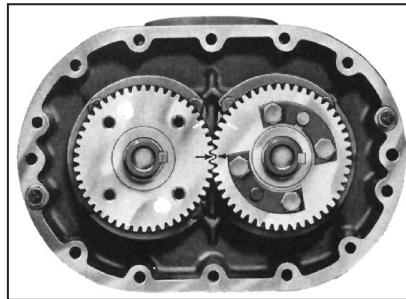
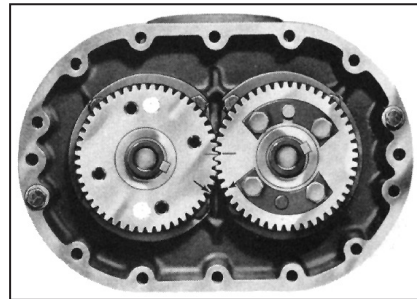
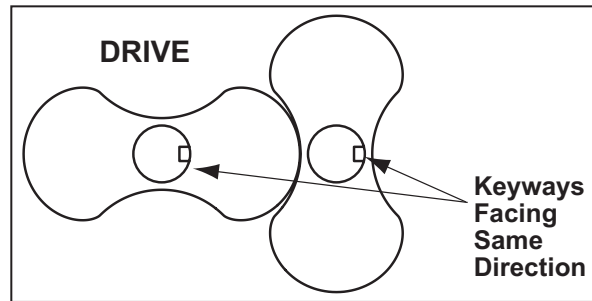

Figure 16 - Position of timing marks
Figure 17 - Position of timing marks
Figure 18 - Keyways position
3. Remove four socket head screws (93). Requires 5/32" hex head (Allen) wrench. Place two of the screws in tapped jacking holes and remove seal housing (91). Tap out seal and discard O-rings.
4. Remove gear cover cap screws (26) and gear cover (6) by placing two of the screws in the tapped jacking holes provided on the cover flange. Support cover with lift straps or other suitable means while removing. The jackscrews will provide the force necessary to break the seal between cover and end plate.
5. Temporarily secure end plate to housing with two screws (26) and some flat washers. Remove four nylok screws (66) from drive shaft (45). A light tap with a mallet will break it loose from the gear. Remove mating ring of mechanical seal [54].
6. Bend back lock tabs and remove cap screws (29), lock (59), washers (25) and spring pins (68).
7. Position timing gears (8) so both timing marks are matched. See Figure 16. Rotate drive gear clockwise approximately three teeth and mark a matching reference line on each gear as shown in Figure 17. This gear position is necessary so rotors will clear and not jam. Using a gear puller with a live center or a centering adapter, large enough so it will not jam into threaded hole, pull driven gear, while keeping matched reference line marks aligned. Use a slight rocking motion to insure rotors have not jammed. Should jamming occur, release pressure and tap gear back on until it rotates freely. Pull mating gear.
3. Place free end plate on suitable blocking with rotor side up. Stand rotors (1) into each bore with gear end shafts up and keyways facing in the direction shown in Figure 18 to the right.
4. Install the gear end plate (4) over the rotor shafts and coming to rest on top of the rotor lobes, being careful not to damage the seals. Recheck the location of the oil sight glass in relation to the drive rotor before proceeding with the assembly. Inspect lapped surface of seal mating ring to be sure it is perfectly clean. Use a soft tissue and cleaning agent if necessary. Place a few drops of lubricating oil on its surface and lubricate the O-ring. Install on rotor shaft with lapped surface down. Slot must line up with pin (300) in rotor shaft. Gently press with fingers to insure compression is taking place and mating ring is not hung up for any reason. Top of mating ring should sit flush with rotor shoulder when fully seated.
5. Coat the rotor shafts with an anti-seize lubricant and press the bearings (9) on the shafts. The bearing manufacturer numbers and/or an acid dot (inner race) should be up or toward the gears. Use the tool shown on page 44 along with a length of 3/4 - 10 x 6" threaded rod, washer (25) and nut. The use of a hydraulic ram with a hollow center is also recommended. In this case the threaded rod will have to be made longer.
6. Install bearing retainer plates (14) and secure with cap screws (30).
7. Check clearance between the face of the end plate and rotor lobes. Refer to *Assembly Clearances* table on page 41 for correct gear end clearances. If clearances are not within specifications, recheck parts to find cause of improper clearances before proceeding. Install keys (24) in rotor shaft keyways.
8. Lubricate shafts and keys and press drive gear (right hand helix) on drive rotor. To install driven gear, align reference marks as shown in Figure 17 on page 35. Tap gear with mallet to start then press the gear until seated.